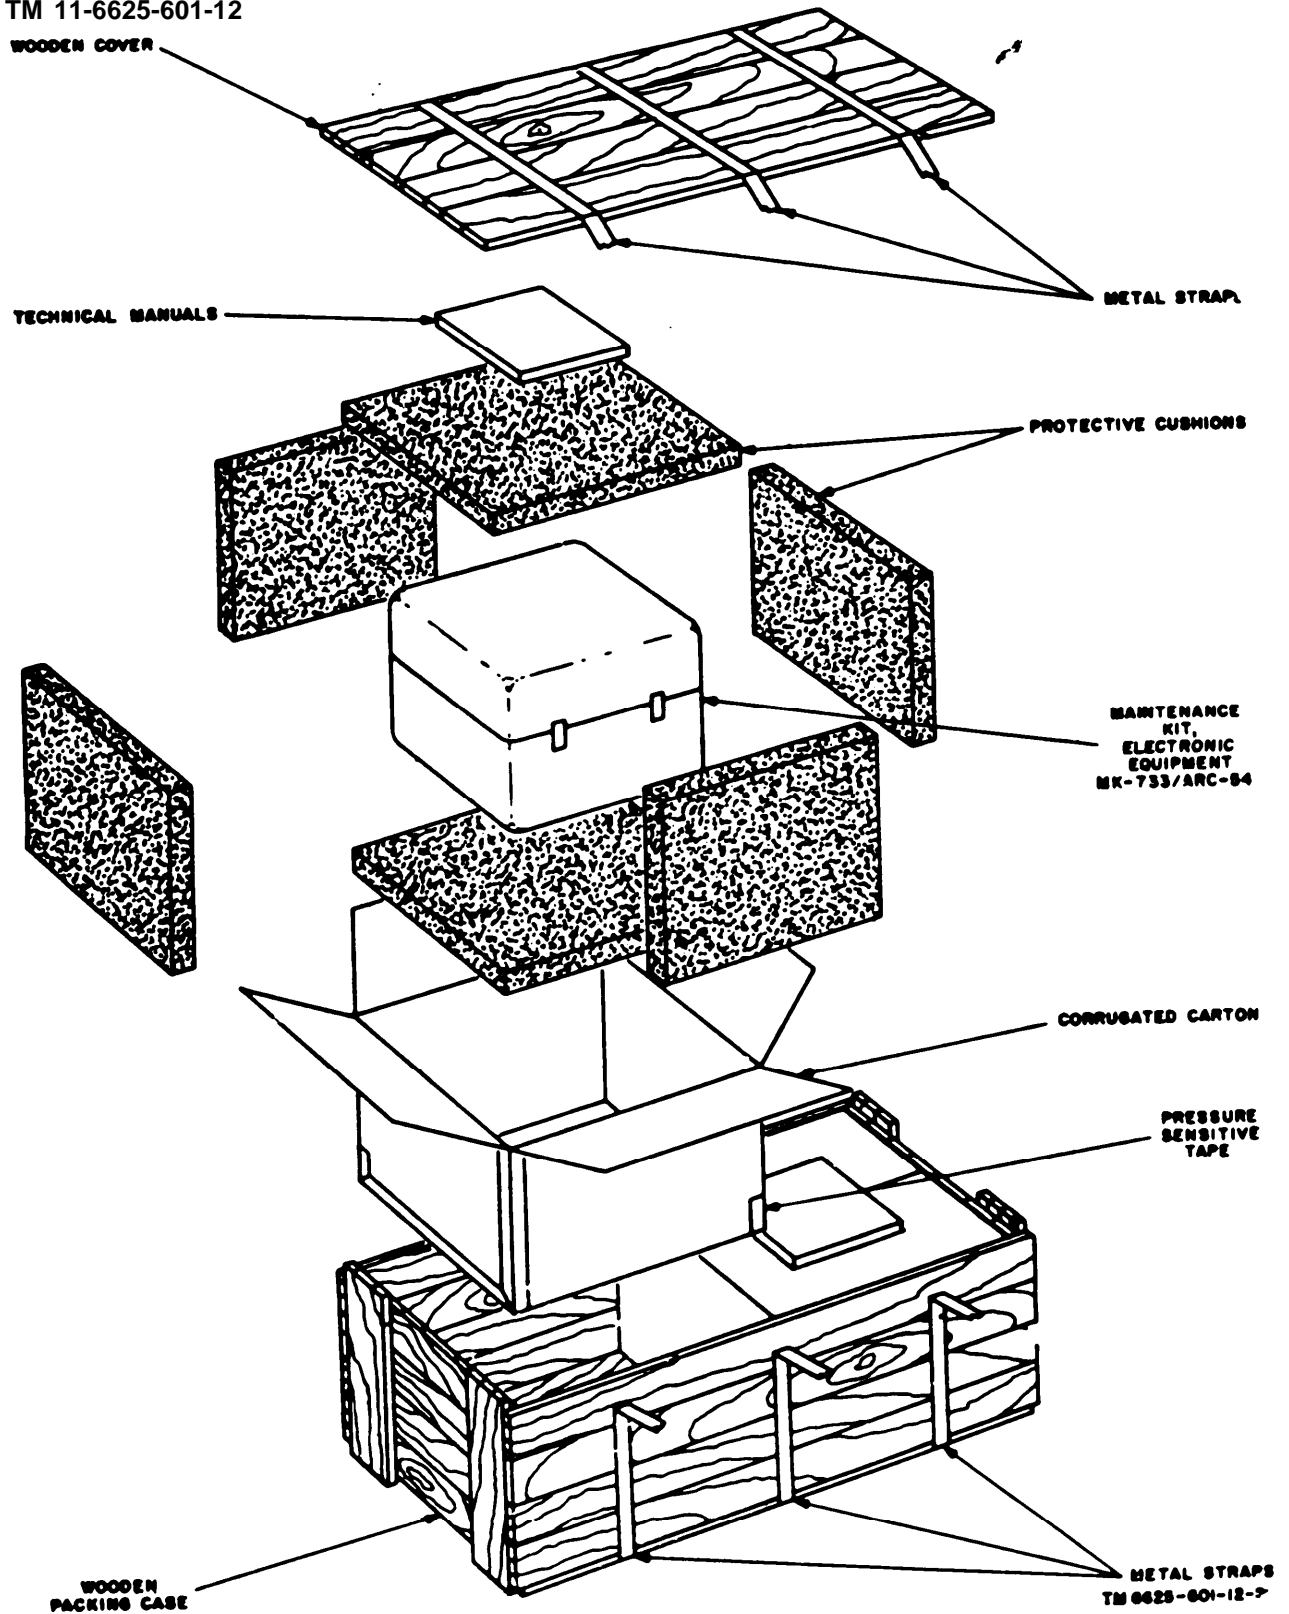

Figure 2-1. Packaging of Maintenance Kit, Electronic Equipment MK-733/ARC-54.
a. Packaging Data. When packed for shipment, the MK-733/ARC-54 is inclosed in a protective cushion and placed in a corrugated carton. The corrugated carton is then placed in a wooden packing case. Two MK-733/ARC-54's are packed in the wooden packing case. A typical wooden packing case and its contents are shown in figure 2-1. The outside dimensions of the wooden packing case are 53 1/2 inches wide, 21 6/8 inches deep, and 23 3/4 inches high. The total weight of the wooden packing case and its contents is 205 pounds, and the volume is approximately 15.8 cubic feet.
b. Removing Contents (fig. 2-1).
- (1) Cut and fold back the metal straps.